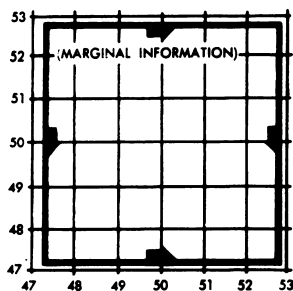

Figure 4
4. Construct the horizontal grid lines exactly 4 centimeters apart perpendicular to the vertical centerline and parallel to the horizontal centerline (fig. 4).